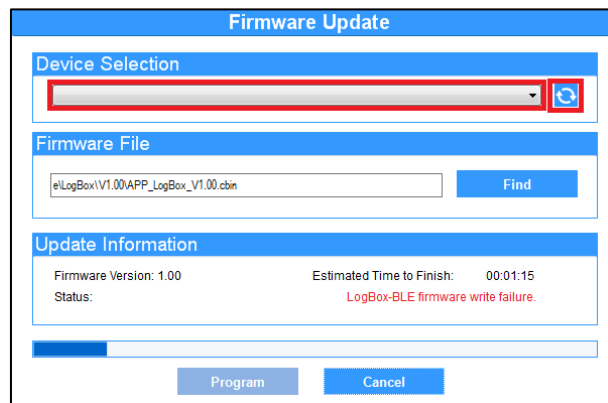

Fig. 61 – Firmware failure
- d. If **NXperience** has been closed and/or it is no longer possible to find the device on the update screen, as shown in **Fig. 61**, it is necessary to close the **NXperience**, turn off the **LogBox BLE** and reconnect the device to the USB interface for a new attempt.